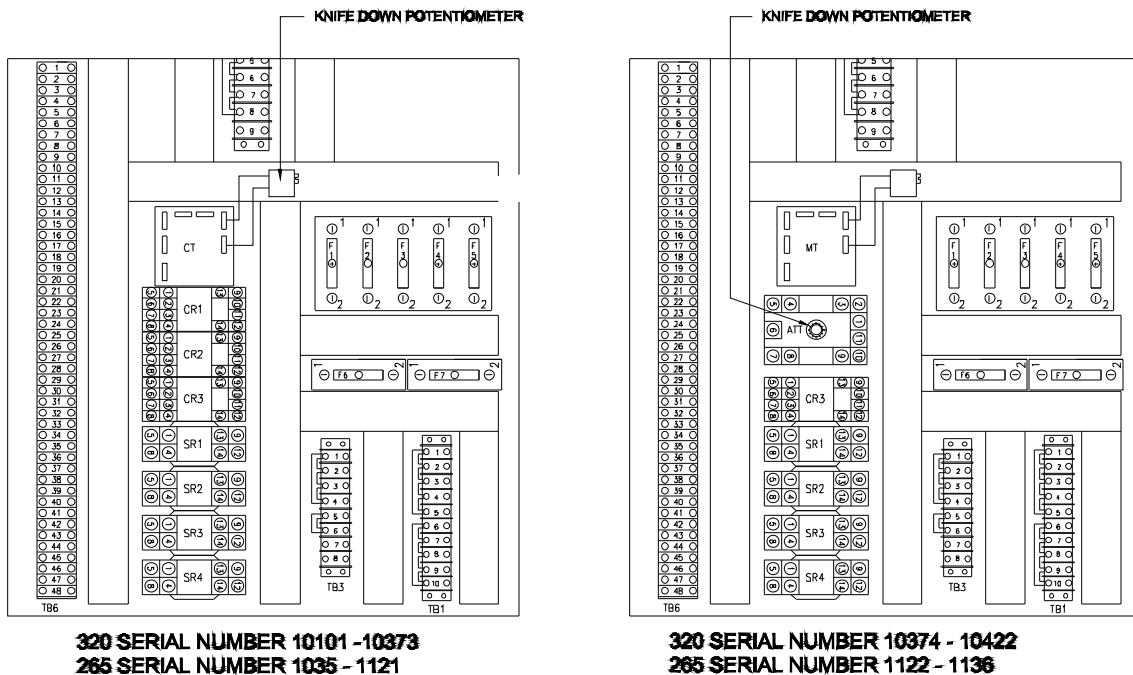

Fig 45
16. If the bottom sheet did not cut or there was not enough pause turn off all power to the cutter. Open the main power box located on the left side rear face. Locate the "Knife Down Potentiometer" in Fig. 45. **NOTE:** The "Knife Down Potentiometer" is located in different locations. Use the serial number chart to locate the correct potentiometer. Turn the "Knife Down Potentiometer" clockwise to lengthen the pause.